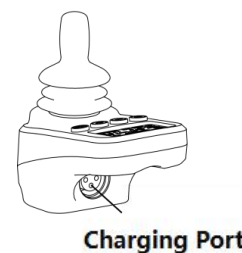

Figure 19
4.4.1 Only use the dedicated charger provided with the wheelchair to ensure safety. Insert the charger's three-pin metal plug into the controller's three-pin socket, ensuring the correct direction for inserting the charging plug. To make it more convenient for users, the battery pack can be removed and charged directly. (See Figures 19, 20, 21)